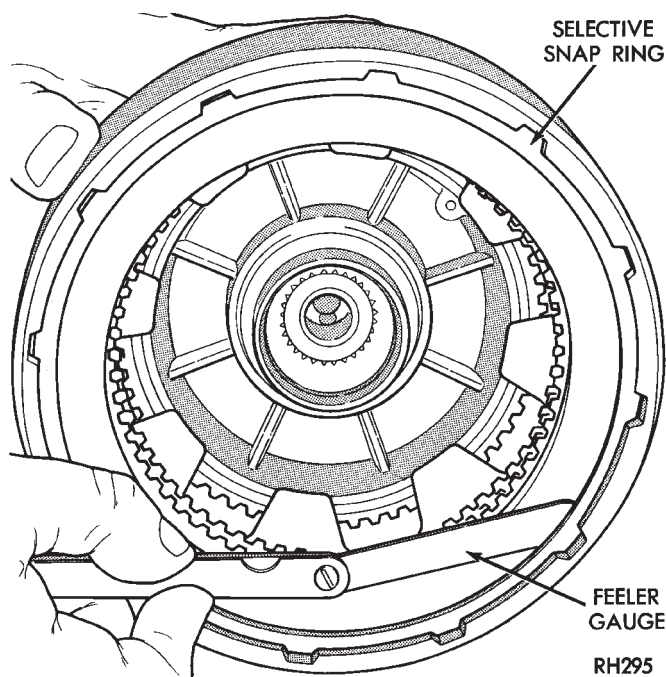

Fig. 73 Typical Method Of Checking Rear Clutch Pack Clearance
(14) Measure clutch pack clearance (Fig. 73). Clearance should be 0.64 - 1.14 mm (0.025 - 0.045 in.). If clearance is incorrect, steel plates, discs, snap ring and pressure plates may have to be changed.